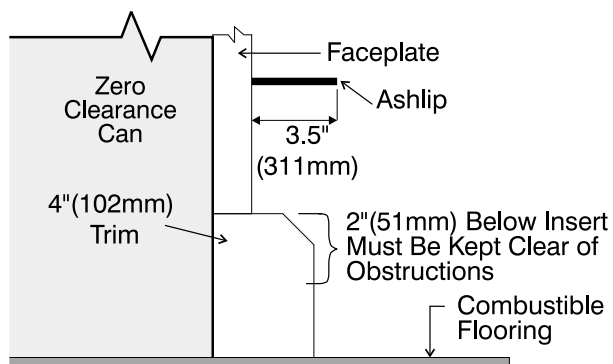

Figure 1
- a) An ashlip is mandatory on a U31/I31 flush (flat window) Insert when installed less than 6" (152mm), (including the 4" (102mm) hearth trim) to a combustible floor (see Figure 1). For detailed installation see Faceplate and Trim Installation.